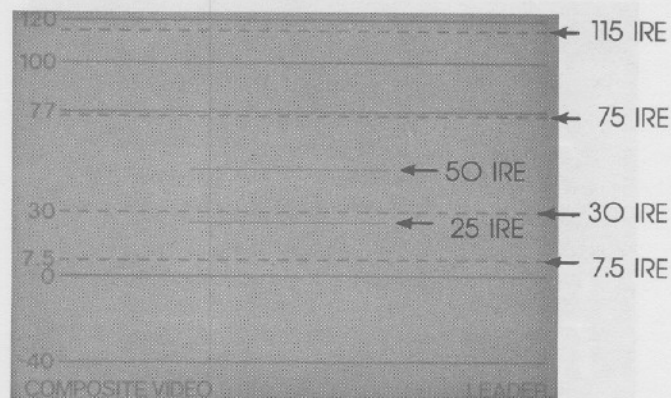

Figure 2-10. Graticule markings
7. Connect the color bar generator output signal to the VIDEO INPUT jack (25) on the rear panel. Set the generator to produce EIA color bars at standard 1V p-p level.
8. Switch on power at the picture monitor and waveform monitors (8) and (9). Refer to Figure 2-10 for identification of waveform graticule markings.
Refer to Figure 2-10 for identification of the internal graticule marks on the waveform monitor. The solid line at zero IRE is the blanking level and V POSITION should be adjusted, if necessary, to place the blanking level of the observed signal at this zero level.